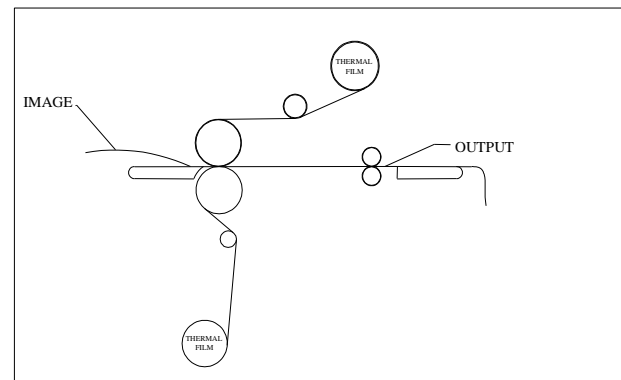

Fig. 20
1. Load the laminator as illustrated in Fig. 20 Poly-in film is used for illustration purpose.